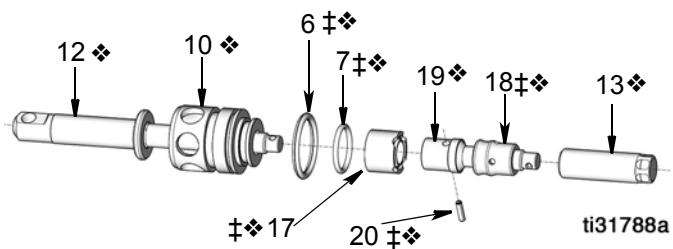

FIG. 21
5. Install intake seal (17 \ddagger \diamond) on the shovel rod (12 \diamond) (FIG. 21).
7. Clean threads of piston rod (19 \diamond) and alignment rod (13 \diamond) with solvent to prepare it for thread locking compound (FIG. 21).
- It may be easier to assemble the two parts by clamping the piston rod in a vise. Take care when clamping the rod in vise to not over-tighten the vise around the rod which could damage the rod or scratch the outside surface. Clamp only on recessed surface of piston rod (19).
- If using a vise, to prevent the rod from rotating while torquing the two parts. insert a pin that is longer than the spring pin (20) through the pin holes.
9. Screw shovel rod (12 \diamond) into piston rod (19 \diamond). Tighten until pin holes in each rod (FIG. 21) align.
10. Install spring pin (20 \ddagger \diamond) through holes aligned in Step 6 (FIG. 21).